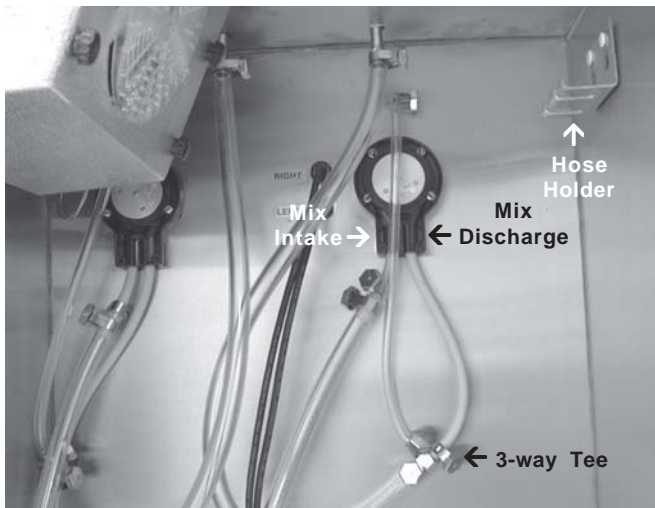

Figure 23. Mix Pumps
- A. Mix Operation: The peristaltic mix pump contains one continuous mix pump hose. When looking at the face of the peristaltic mix pump, the left side of the hose is the suction or pickup. The right side of the hose is the discharge. Mix is drawn up the suction side of the hose and transferred thru the discharge side to the freezer (see Figure 23).